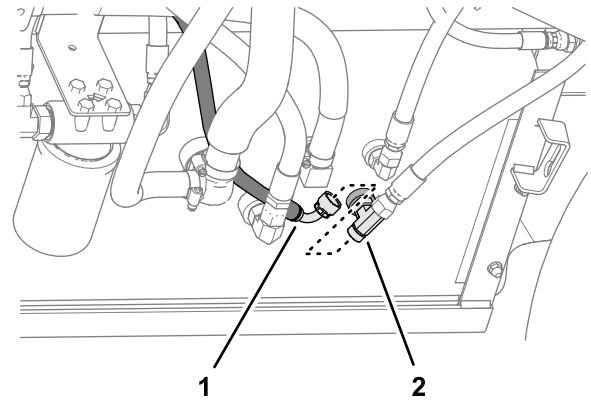

Figure 131
7. Assemble the 90° fitting of the tank-return hose 6 x 2819 mm (1/4 x 111 inches) onto the T-fitting, and tighten the hose fitting (Figure 131).